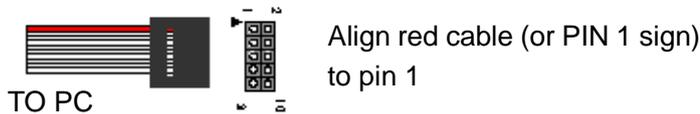

Fig. 5 ByteBlaster II (or USB Blaster) connection
3. Connect the ByteBlaster II 10-pin female plug to CN8(Card address: R.1, 1.5) (Fig. 5).